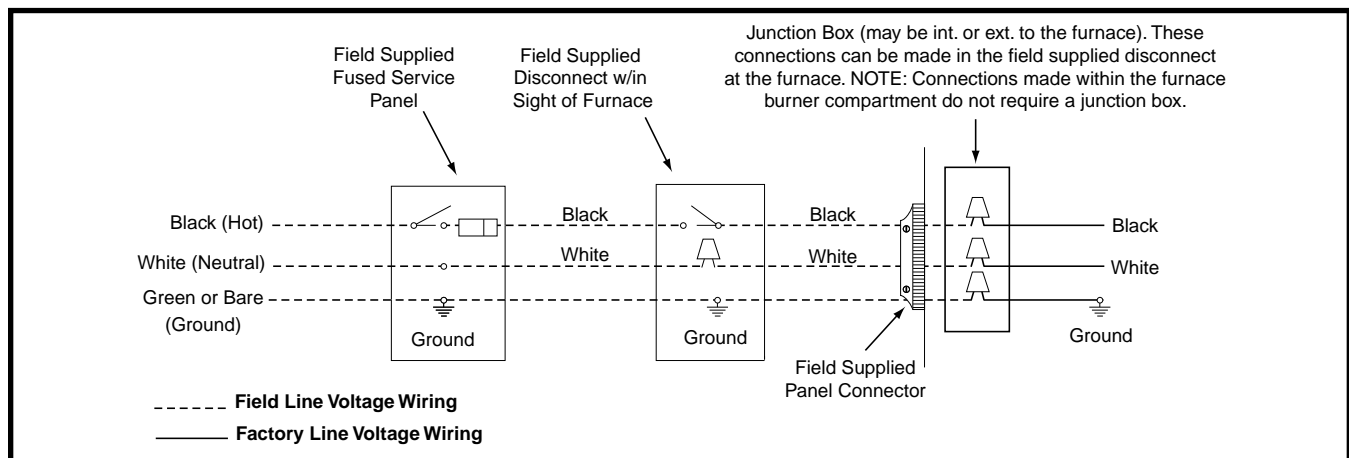
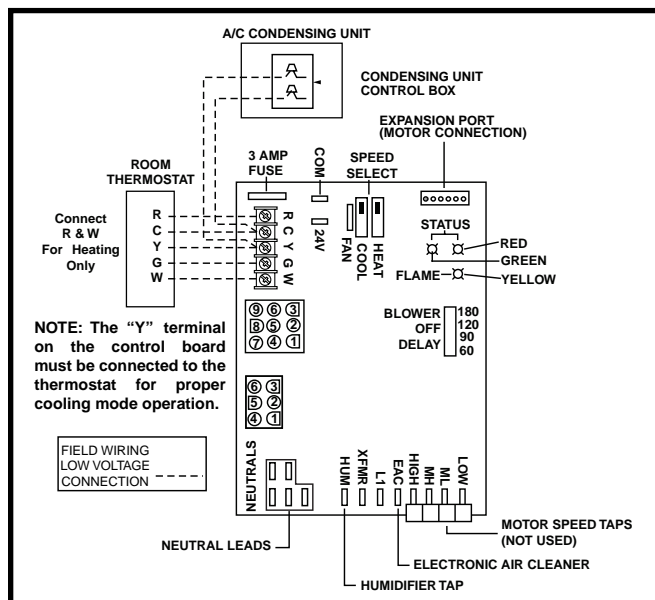

Figure 27. Line Voltage Field Wiring
Figure 28. Low Voltage Field, Four-wire Heating/Cooling Applications
An electrical disconnect must be installed readily accessible from and located within sight of the furnace. See Figure 27 or the wiring diagram label inside of the control door. Any other wiring methods must be acceptable to authority having jurisdiction.
to the black wire. The furnace will not operate unless the polarity and ground are properly connected as shown in Figure 27.
- The thermostat must be installed according to the instructions supplied by the thermostat manufacturer. Low voltage connections (24 VAC) from the thermostat are wired to the terminal strip on the integrated control in the furnace. Figure 28 contains the proper connections for heating only (two-wire) and heating/cooling (four-wire) applications. Recommended minimum wire gauge for thermostat wiring is shown in Table 5 (page 28).
- The six pin terminal marked "Expansion Port" (Figure 28) is not used in the single stage furnace as shipped from the factory. It is used for the furnace control board to communicate to a fixed speed or variable speed high efficiency motor that may be optionally installed. Please contact your distributor for the proper upgrade motor kit.
The operating sequences for the heating, cooling, and fan modes are described below. Refer to the field and furnace wiring diagrams: (Figure 27 page 28), (Figure 28, page 29) and (Figure 33, page 39).